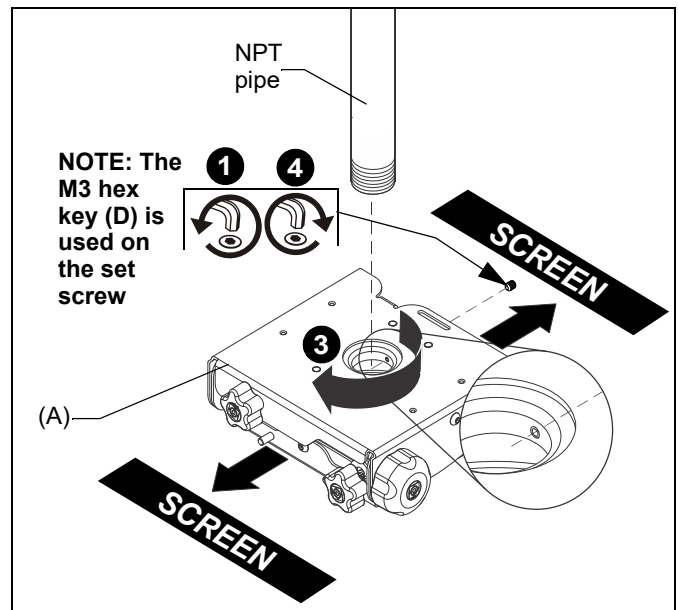

Figure 1
1. Loosen and remove the set screw which ships installed in the VCT mount (A). (See Figure 1)
- Thread the VCT mount (A) onto the existing 1-1/2" NPT pipe until tight with a minimum of four threads engaged. (See Figure 1)
**NOTE:** Ensure that side of VCT mount with two knobs is located parallel to, or opposite of, the screen. (See Figure 1)
- Tighten the set screw into the VCT mount threaded collar to prevent movement of the VCT. (See Figure 1)